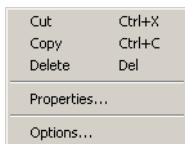

Figure 4-57. Coordinate File Pop-up Menu
- To edit coordinate file information, right-click one of the point rows to display the coordinate file pop-up menu (Figure 4-57).